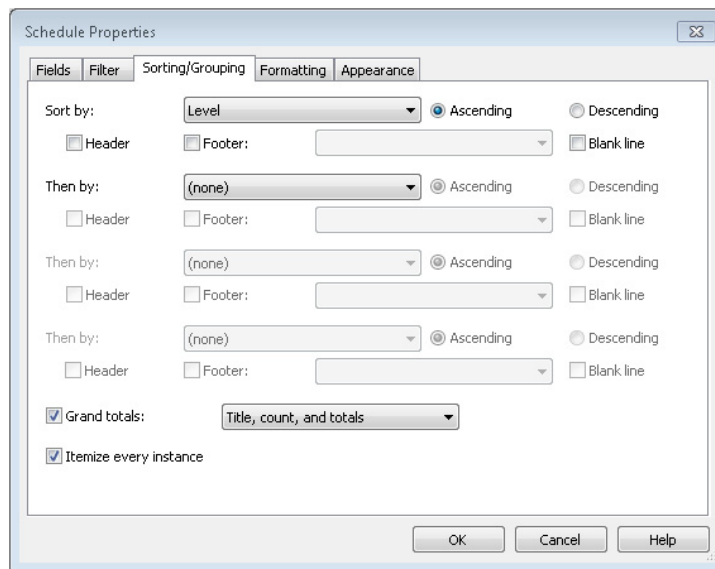

FIGURE 7.28 Selecting the Sorting/Grouping fields
4. On the Sorting/Grouping tab, change Sort By to Level. Also, check the box at the bottom for Grand Totals, and select Title, Count, And Totals in the drop-down, as shown in Figure 7.28.